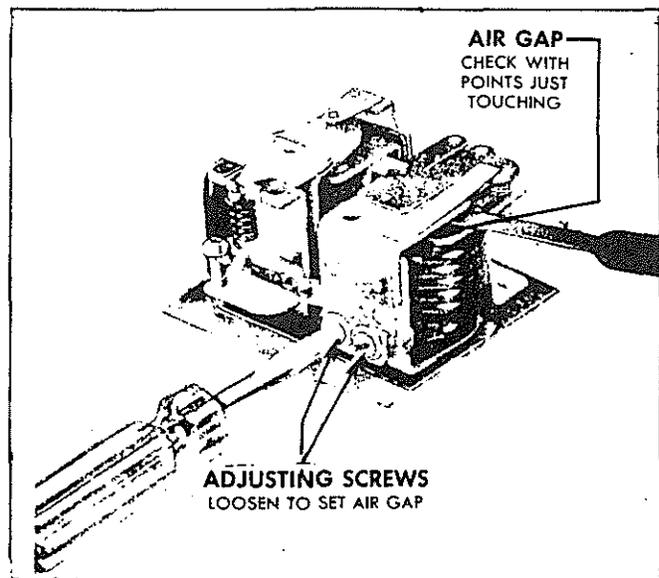

Figure 4. -- Cutout relay air gap check and adjustment (1118200 series). Battery must be disconnected when this check is made.
**AIR GAP (1118200 Series)** -- Place fingers on armature directly above core and move armature down until points just close, and then measure air gap between armature and then measure air gap between armature and center of core (Fig. 4). To adjust air gap, loos-
**CURRENT-VOLTAGE Unit (1118200 Series)-** Make connections as in Figure 2 for Cutout Relay Closing Voltage Check. Turn knob of variable resistance completely to right to cut out all resistance. Install one spring on current-voltage unit. Open contact points on current-voltage unit by hand. Start generator and slowly raise speed to approximately 2500 r.p.m. Maintain this speed, release armature and adjust spring hanger until voltmeter reads 4.0-4.5 volts (8.0-9.0 volts on 12 volt system). Install second spring, reconnect voltmeter as in Figure 4 and complete voltage adjustment on second spring as described under Voltage Setting of Current-Voltage Unit.